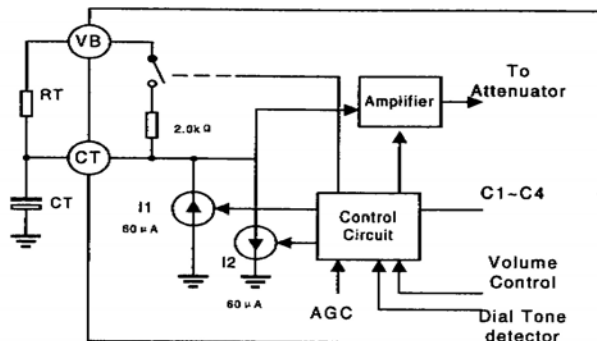

Fig. 5. CT Attenuator control block circuit
4. The circuit will switch to the slow idle mode when: (A) both talkers are quiet(no speech present) or (B) when one talker's speech level is continuously over-ride, by noise at the other speaker's location. The time required to switch the circuit between transmit, receive, fast idle, and slow idle is determined in part by the components at the CT pin(pin14), (see the section on switching timers for a more complete explanation of the switching time components A schematic of the CT circuitry is shown in Figure 5, and operates as follows: